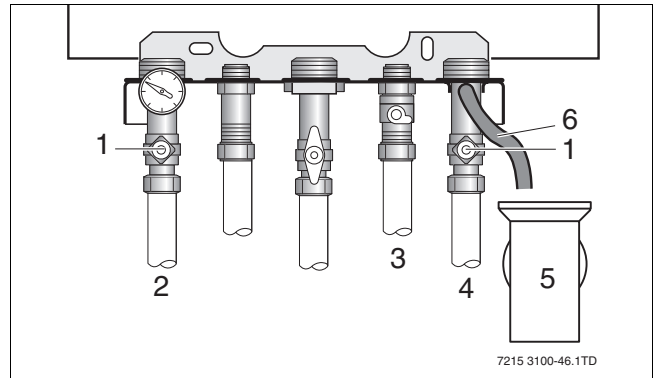

Fig. 46 Draining the boiler
- Connect drainage hose (→ fig. 46).
- Connect draining hose to draining point on the manifold (→ fig. 46, item 1).
- Open draining point to drain the boiler (→ fig. 46, item 1).